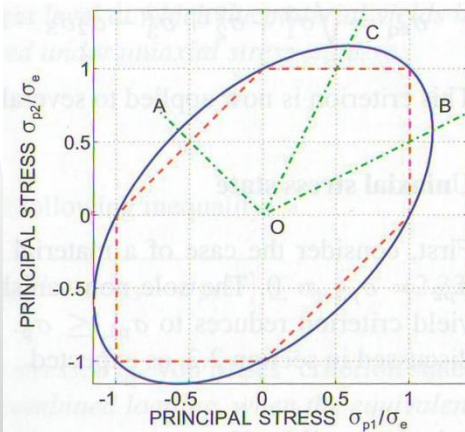

Fig. 2.10. Comparison of Tresca's and von Mises' criteria for a plane stress case.
- 3 radial lines OA, OB, OC in Fig. 2.10